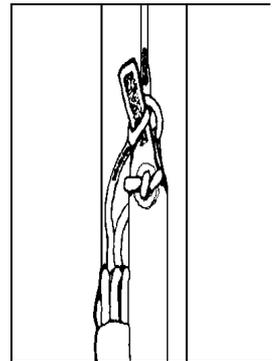

Figure 3.
Step 5.) Insert the stiffened upper portion of the control toggle through the loop and pull the control line back up tightly against the ring guide. (See Figure 3.) "S" fold the remaining break line next to the control toggle and stow it in the Velcro loop provided. Mate the Velcro on the control toggle with the Velcro on the riser.